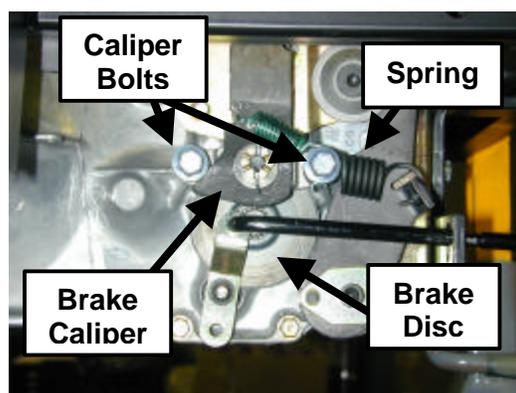

Figure 17: Brake Assembly
2. Locate the brake caliper at the right front of the machine (*Figure 17*).